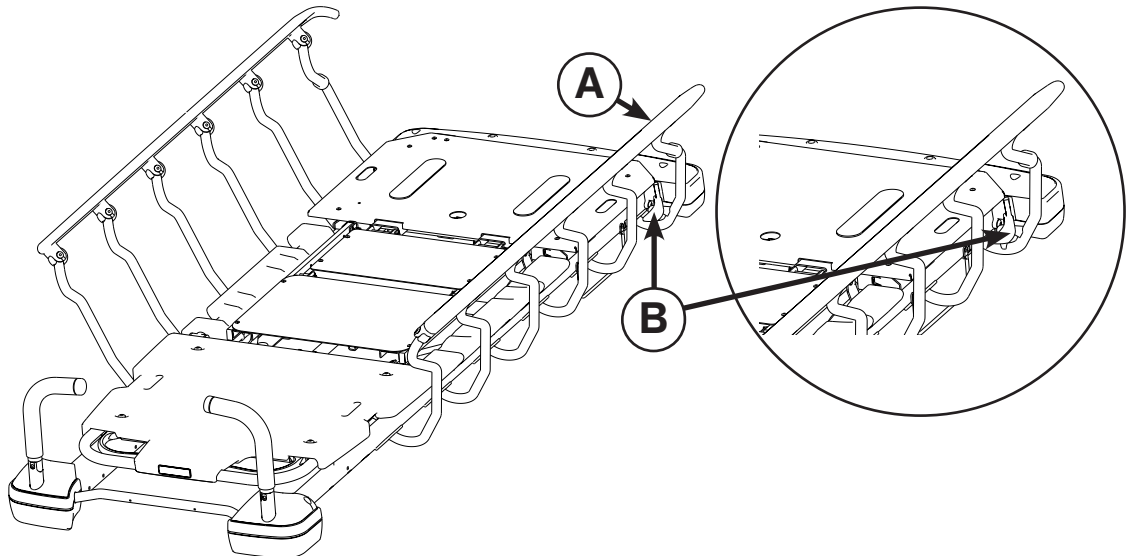

Figure 16: Siderails
To raise the siderails, pull up on the siderail (A) and raise it to the highest position until the latch (B) engages as shown in Figure 16.
To lower the siderails, pull up on the latch (B) and guide the siderail to the lowest position as shown in Figure 16. The latches (B) are colored yellow for easy identification.